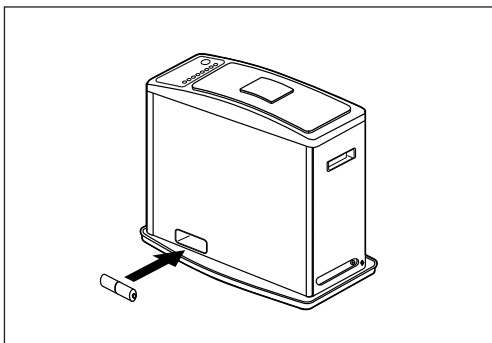
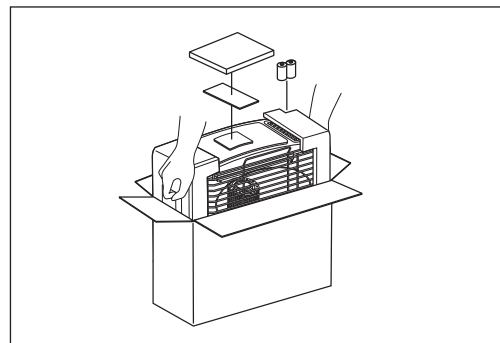

Fig. 12
Fig. 13
Carefully following the instructions for storage given below will insure that your heater will operate efficiently and safely next season (Fig. 12/ Fig. 13).
- Remove the batteries (Fig.12) from the battery case before storing the heater to prevent leakage and corrosion. Remove the 5 cabinet screws and lift off they the cabinet and grille assembly. Remove the burner. Remove the wick adjuster from the fuel reservoir. **Thoroughly** dry the Inside of the fuel tank. Using a screwdriver and/or a brush, remove any carbon, tar or soot that might have accumulated on the wick adjuster, wick guide or burner.